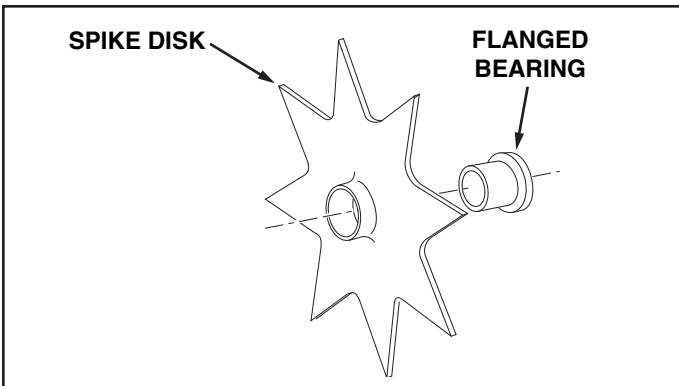

FIGURE 12
- Push a flange bearing into each of the seven drive disks, from the side shown in figure 12.